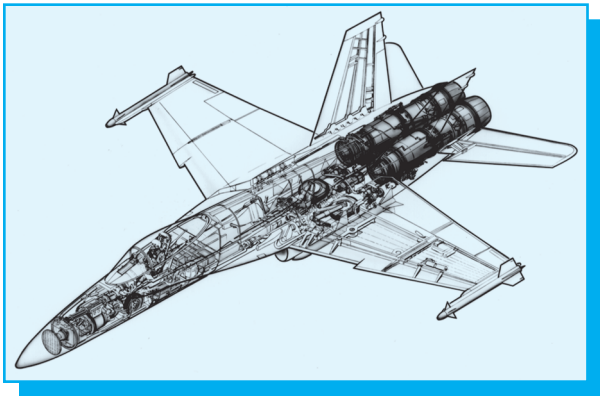

Figure I-20
2. *Pictorial drawings* show an object as in a photograph. Usually three adjacent surfaces are shown in one drawing (**Fig. I-20**).